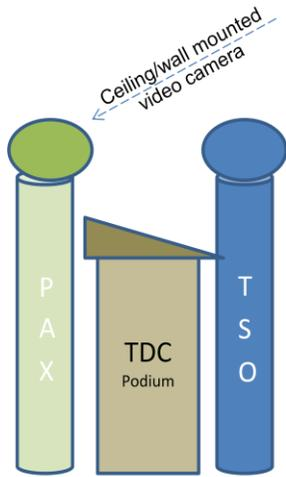

Figure-3a
- Figure-3a TDC
Passenger Screening Checkpoint, Travel Document Checker (TDC). **Figure-3a** illustrates a